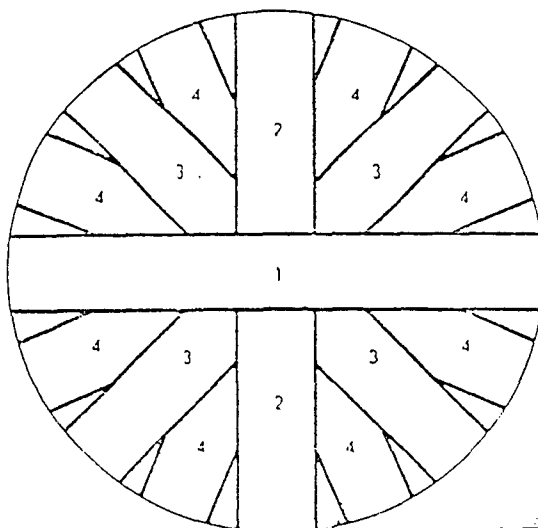

FIG 2
3.1 Cork should be applied to the dished ends of tanks and vessels in a pattern similar to that shown in Figure 2. Sections 1 and 2 are installed first. The areas are then built up in quarters in the order shown in Figure 2. Full length blocks are used where possible. Blocks must be carefully mitered together to insure a close fit. Each block shall be coated with an adhesive on all contact surfaces with the insulation and equipment. All chipped edges, cracks, or imperfections shall be smoothed with Seam Filler, Code 808. Upon completion of the application, all wires or bands should be checked for tightness and drawn up where necessary. Subsequent layers are applied in the same manner except that all joints are staggered with the preceding layer.